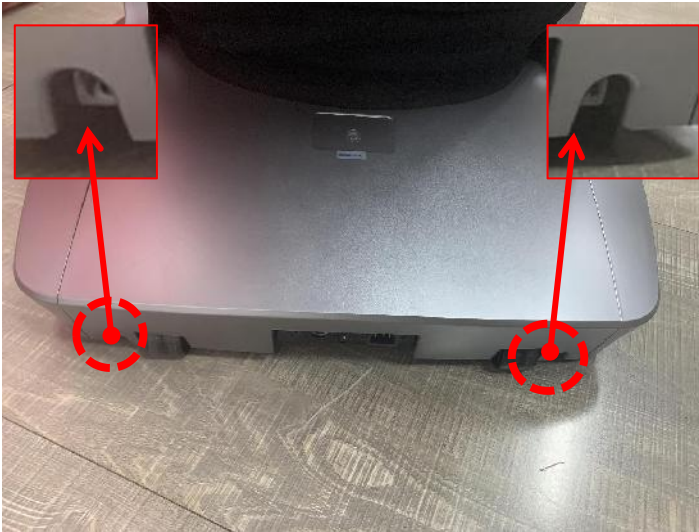

Figure 1
1. Remove the two fixing screws of the back cover and remove the back cover (Figure 1)